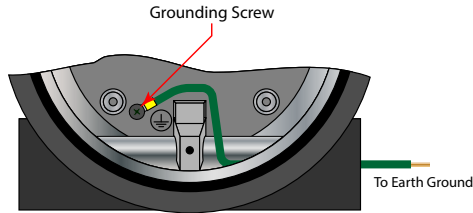

Figure 12: Required grounding for Ex-proof enclosure
**GROUNDING FOR THE EXPLOSION PROOF ENCLOSURE IS NECESSARY. THE EXPLOSION PROOF ENCLOSURE IS PROVIDED WITH A GROUNDING SCREW ON THE INSIDE OF THE ENCLOSURE. THE CONDUCTOR USED FOR GROUNDING MUST BE OF A WIRE GAGE EQUAL TO OR GREATER THAN THE SIGNAL WIRES BEING USED. SEE FIGURE 12.**